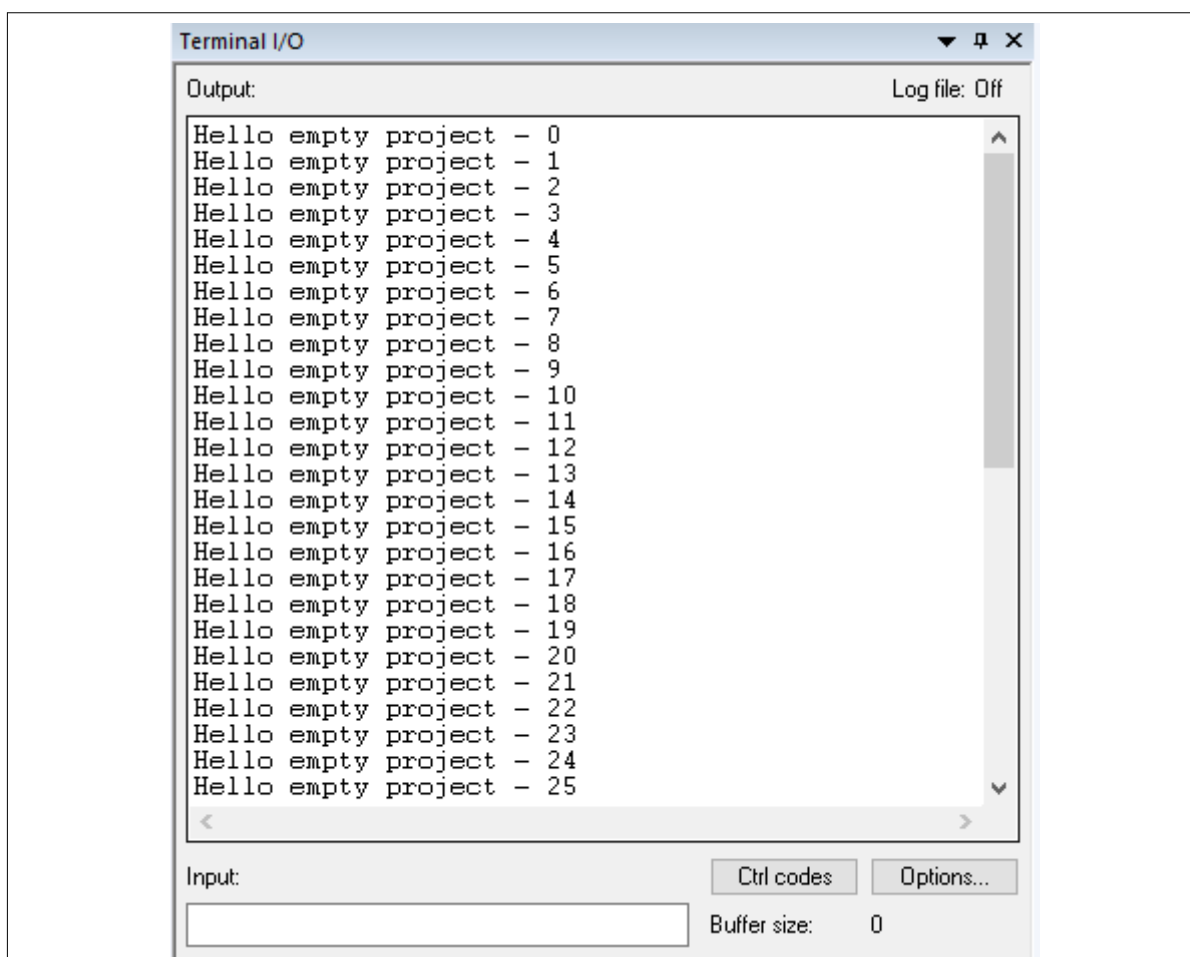

Figure 19 IAR terminal I/O window showing printf output
- You should see the user LED toggling every second. The Terminal I/O window displays logs as shown in Figure 19